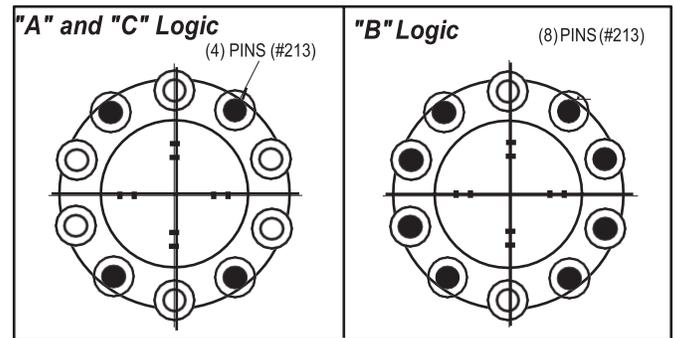

Figure 9.10 - Installing Pins (#213) into Piston (#3)
3. Apply Red Loctite #271 to the appropriate number of holes in the Piston (#3) and install an appropriate number of Pins (#213) into the holes. There are (4) Pins for "A" and "C" Logic and for "B" Logic there are (8) Pins. (See Figure 9.10) Clean off any excess adhesive.